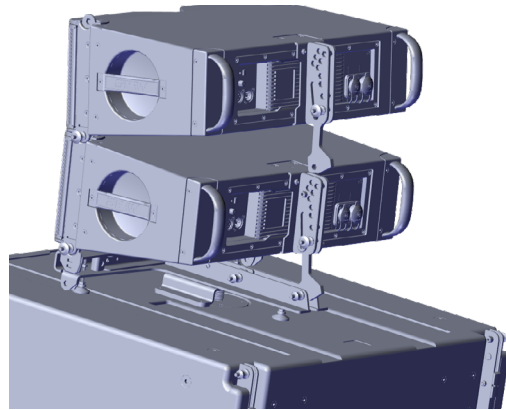

Figure 19a
- Swing down the rear rigging and pin chosen splay angle using pin on the first cabinet (Figure 19a-19b).